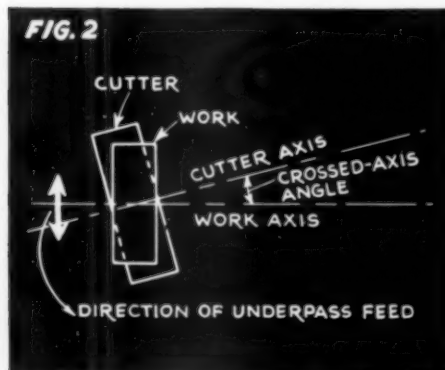

FIG. 2
1. UNDERPASS—(Fig. 2) tangential feed; one roughing and one finishing pass usually enough for any gear (up to 4" face). For finishing close shoulder gears, etc.; evenly distributed cutter wear.